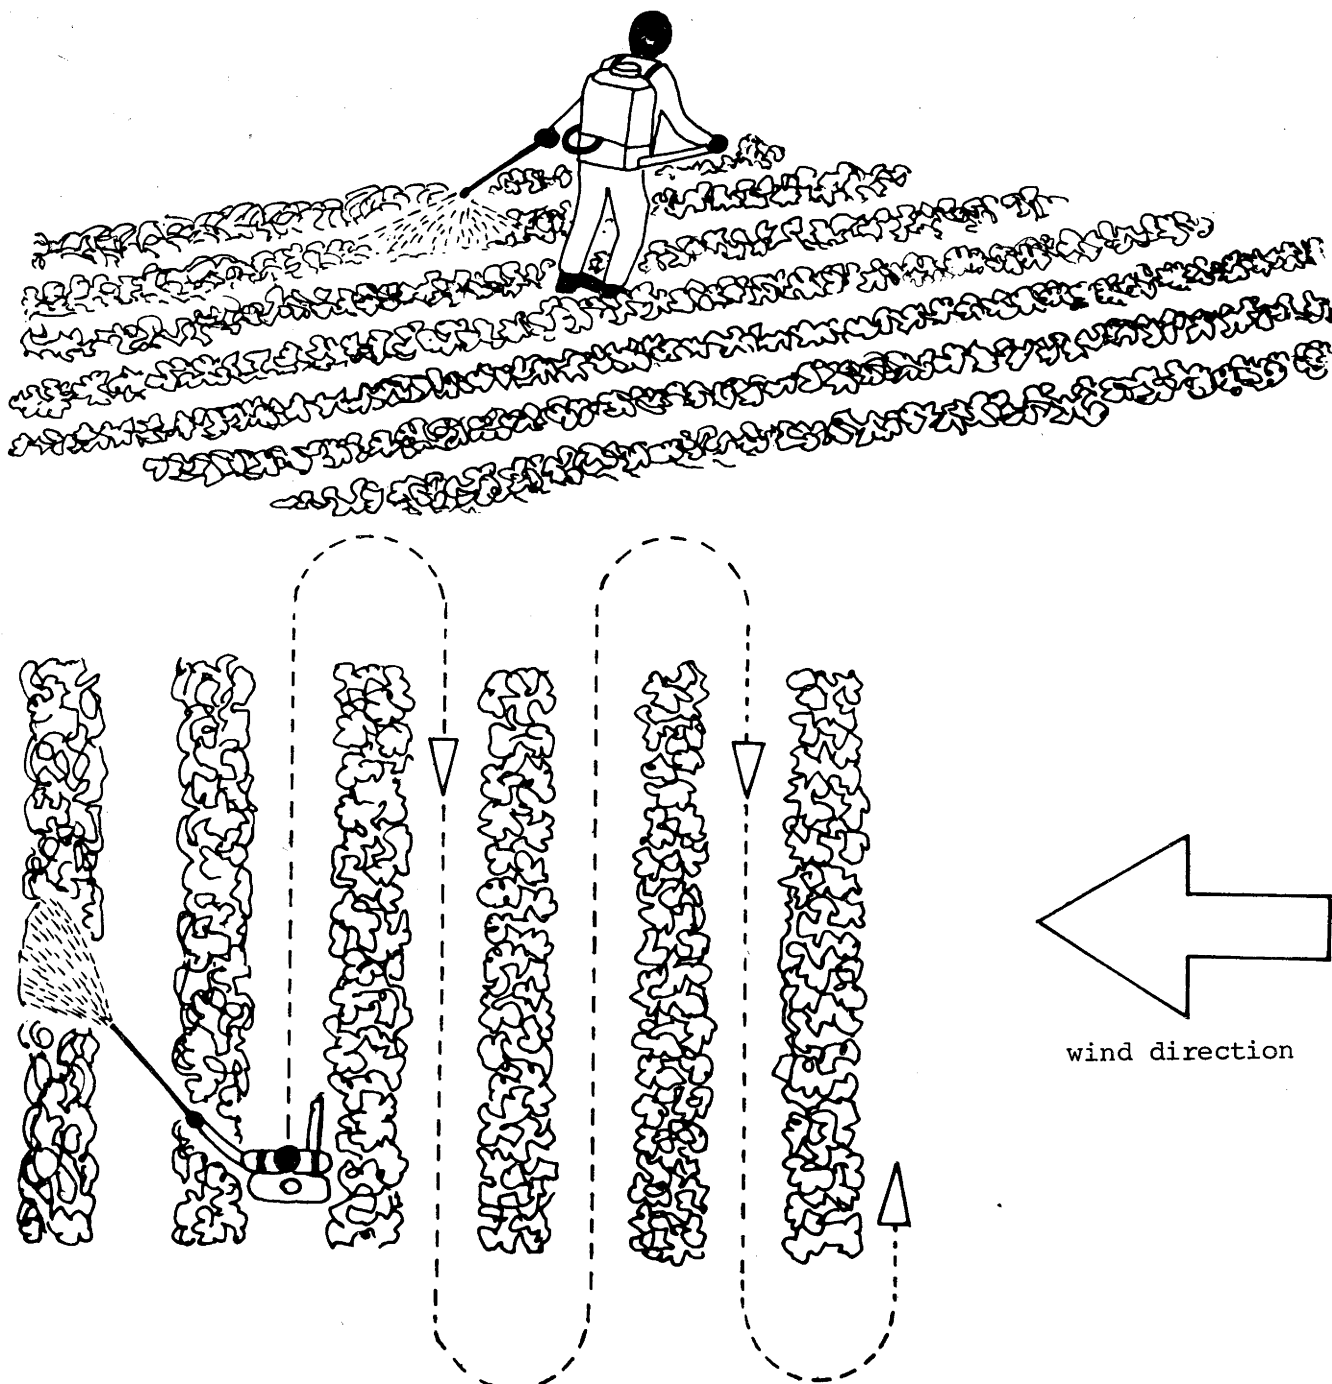

FIGURE 4 SPRAYING OVER-ROW WITH ONE SPRAYMAN
Pesticides are poisonous chemicals and because of this it is very important that the sprayman does not get the chemical on his skin (see section 5 on page 9). One of the ways to increase the safety of spraying is to make sure the method of applying the chemicals is correct. Figures 4 and 5 show how to spray correctly with one or more spraymen.
2. Always spray the row next to the one you are walking down. This is so that the chemical on the plants is not brushed off onto the legs of the sprayman. This type of spraying is known as over-row spraying and is the safest way of high volume spraying (Figure 4). On some crops it is not possible to use this method because they are too tall. If this is the case it is best for the sprayman to spray behind or to one side of himself as he walks along the row.